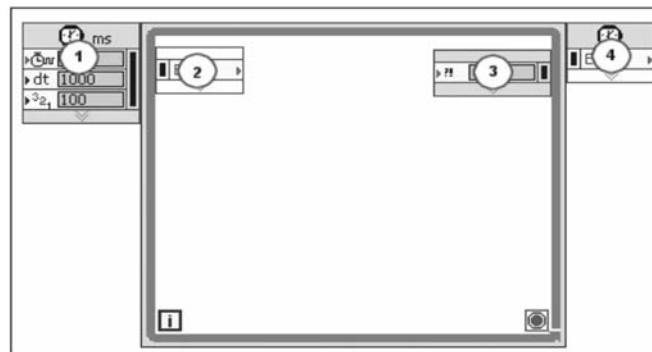

Figure 8.3 Timed Loop.
The Timed Loop includes (1) Input, (2) Left Data, (3) Right Data and (4) Output nodes as shown in Figure 8.3. By default, nodes of the Timed Loop do not display all of the available input and output terminals. You can resize nodes or right-click a node and use the shortcut menu to display hidden node terminals. You can set the initial configuration options of a Timed Loop by wiring values to the inputs of the Input node, or you can use the *Configure Timed Loop* dialog box, available by right-clicking the Input node and selecting *Configure Input Node* from the shortcut menu, to enter values for the options. Refer to the *Configuring Timed Loops* topic for more information about configuring a Timed Loop.